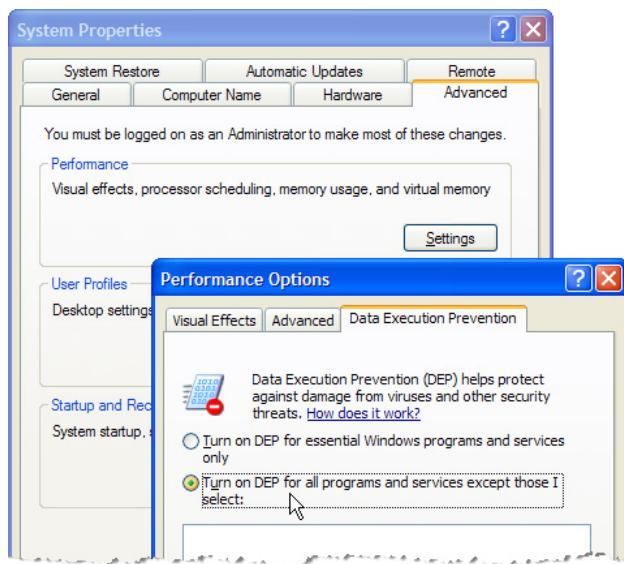

Figure 6.1 Enabling DEP for all programs (XP SP2 only)
- iii) On the **Data Execution Prevention** tab of the **Performance Options** dialog box, click **Turn on DEP for all programs and services except those I select** (figure 6.1)
- iii) On the **Data Execution Prevention** tab of the **Performance Options** dialog box, click **Turn on DEP for all programs and services except those I select** (figure 6.1).